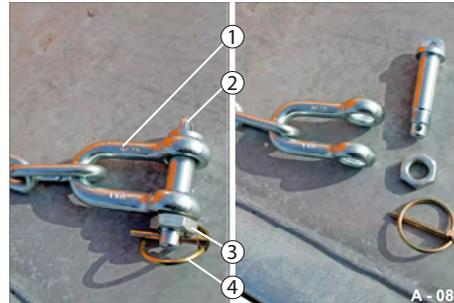

Fig. 84 U-bracket lock released
- ▶ Release the locking ring (Fig. 84/4) and pull out the splint.
- ▶ Unscrew the nut (Fig. 84/3) and the threaded bolt (Fig. 84/2).
The U-bracket (Fig. 84/1) is prepared for securing the rear platform gate.
- ▶ Secure the U-bracket with the threaded bolt (Fig. 84/2), nut (Fig. 84/3) and splint with the locking ring (Fig. 84/4).